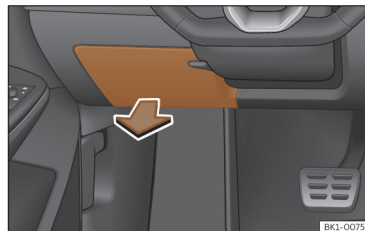

Fig. 169 On the dashboard on the driver side: lid of the fuse box.
- Grasp the back of the cover and remove it in the direction of the arrow >>> **Fig. 169**.